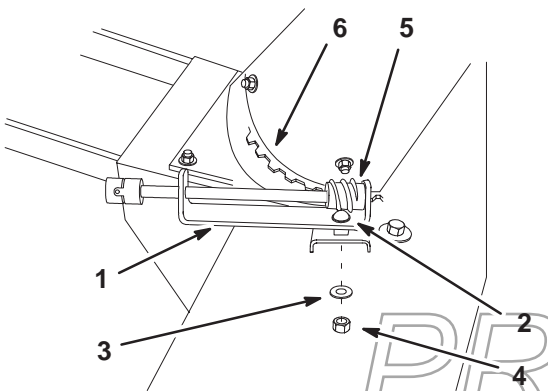

Figure 8
3. Install the discharge chute worm gear assembly into the slot on the rightside of the housing with a carriage bolt (5/16 x 1 inch) (head to the top), lock washer (5/16 inch), and locknut (5/16 inch) (fig. 8).
4. Adjust the rotator assembly so that the worm gear is at a right angle with the chute, the chute teeth mesh fully, and the chute turns freely (fig. 8).
5. Tighten the locknut securely (fig. 8).